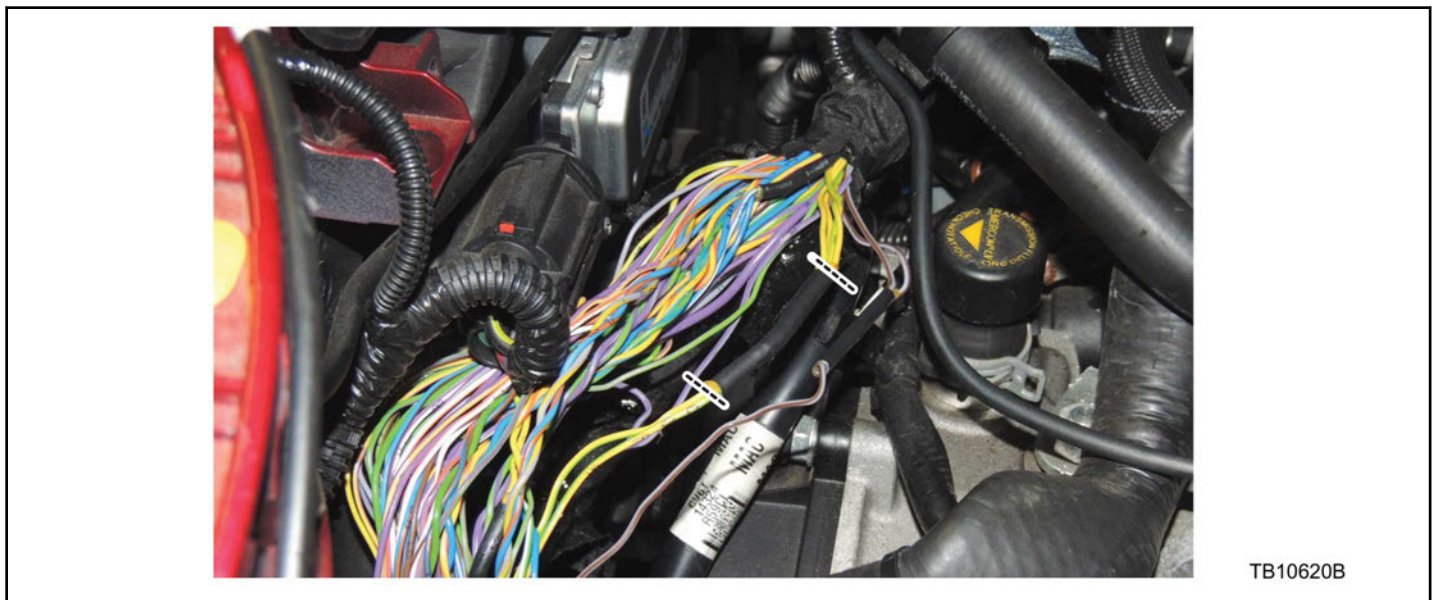

Figure 13 - Article 15-0007
18. Cut the wires on each side of splice S108 and strip off 19 mm (0.75 in.) of insulation from each of the yellow/green wires. (Figure 13)